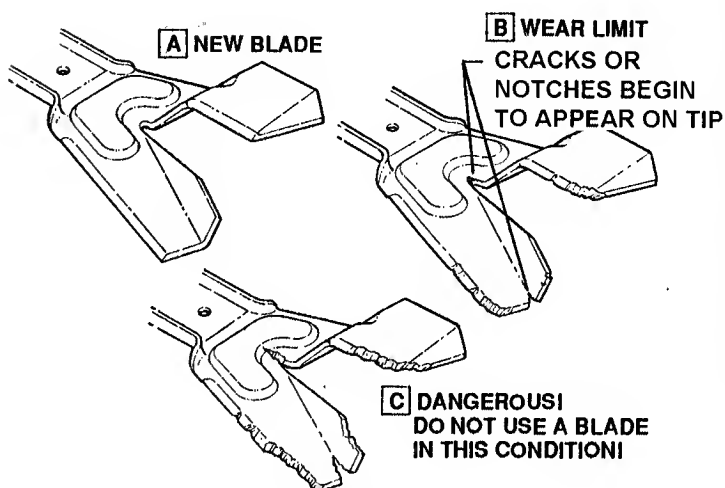

FIGURE 3.6
1. Figure 3.6 shows some examples of wear conditions found on SNAPPER's special blade (NINJA) for recycling model mowers. This blade should be inspected more often than standard blades and special attention should be taken to make sure that the blade is kept in good condition.
2. Refer to Figure 3.6 to determine blade condition. Replace the blade if it is badly chipped, bent, noticeably out of balance or has cracks or notch in either tip as shown in example B above. Replace with new blade Part No. 2-4234.